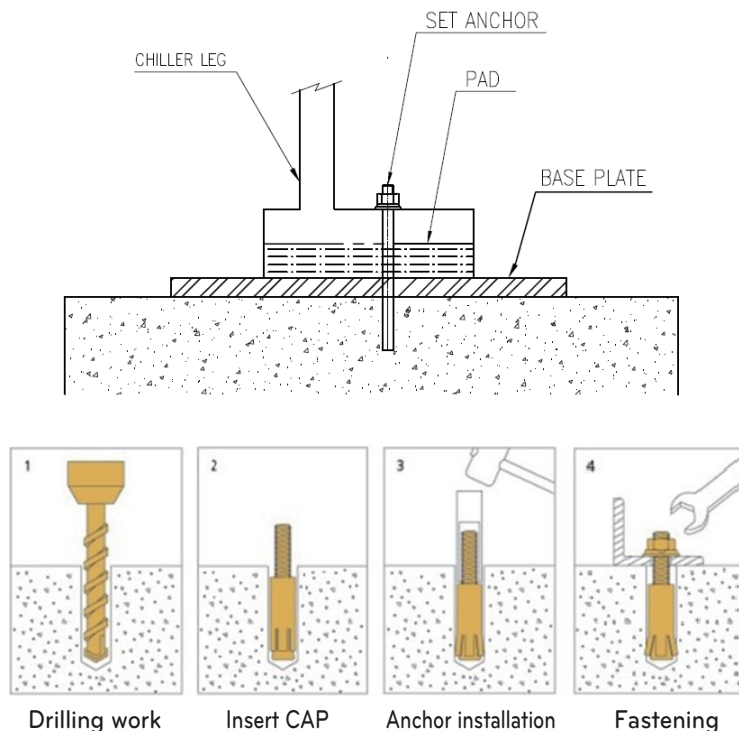

Figure 21. The installation work of isolation pads and Anchor Bolts
- 1) Please install the basic anti-vibration devices to the base of the product in accordance with the working order of isolation pads and the Set Anchor bolts as the figure 21. below.